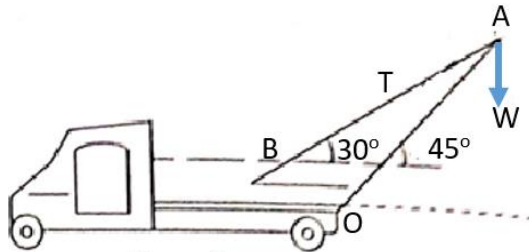

Figure 1
1. Taking the tension in cable as $T=20$ kN, find the load W which can be lifted with the frame hoist on a truck as shown in Fig. 1?